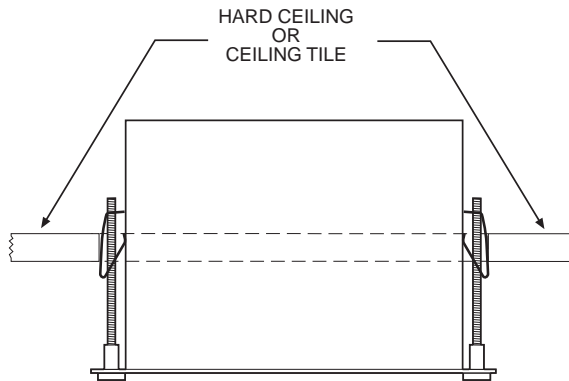
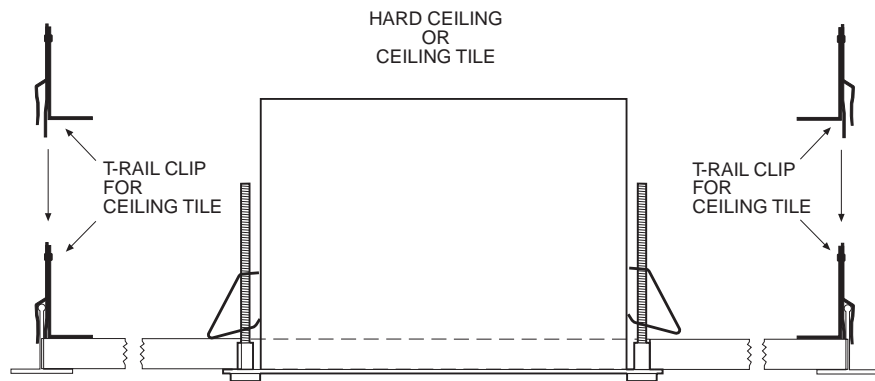

Figure 6. Installing Back Box
Figure 7. Fastening Back Box
7. Refer to Figure 6. Compress the spring clips on the back box with your hands and push the back box through the hole in the ceiling tile. The spring clips will spring out when they clear the ceiling tile.
8. Refer to Figure 7. Tighten the screws until the spring clips hold the back box firmly to the ceiling tile. You will hear a clicking noise when the screws are tight. Do not install the ceiling tile in the ceiling yet.
1. Suspended Ceiling Only (for hard ceiling, go to step 2) – Install the ceiling tile with the back box. Attach a T-rail clip on each side of the ceiling tile as shown in Figure 7.
5. Hard Ceiling Only - Refer to Figure 6. Compress the spring clips on the back box with your hands and push the back box through the hole in the ceiling. The spring clips will spring out when they clear the ceiling. Refer to Figure 7. Tighten the screws until the spring clips hold the back box firmly to the ceiling. You will hear a clicking noise when the screws are tight.